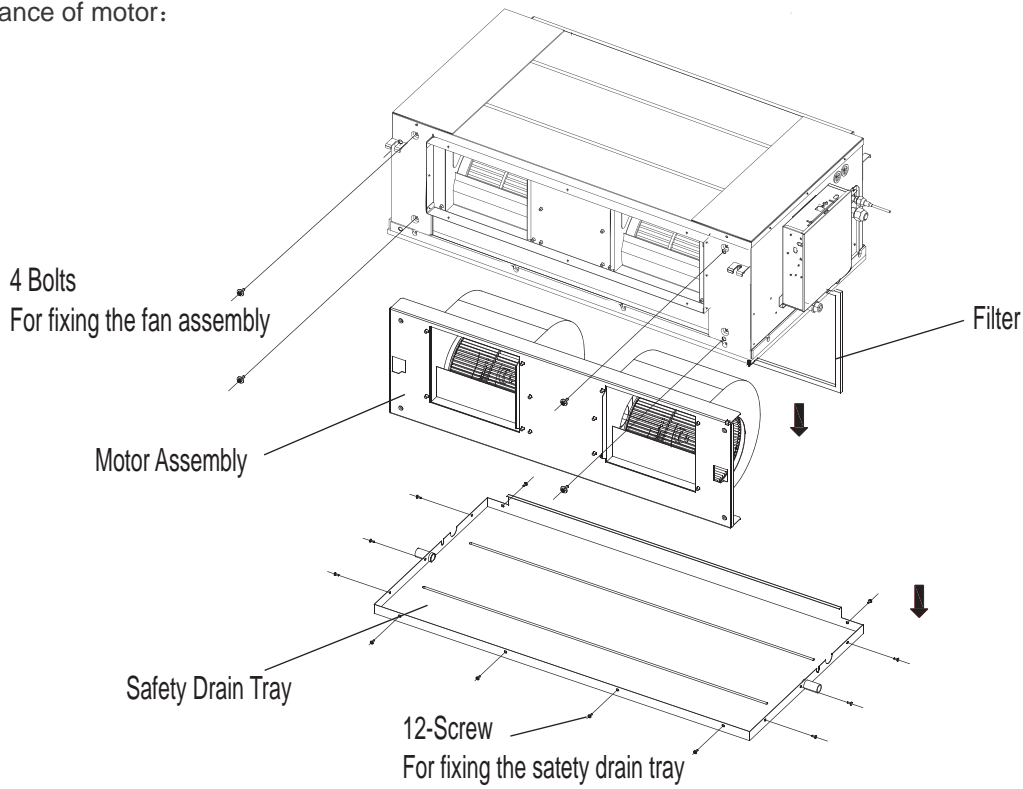
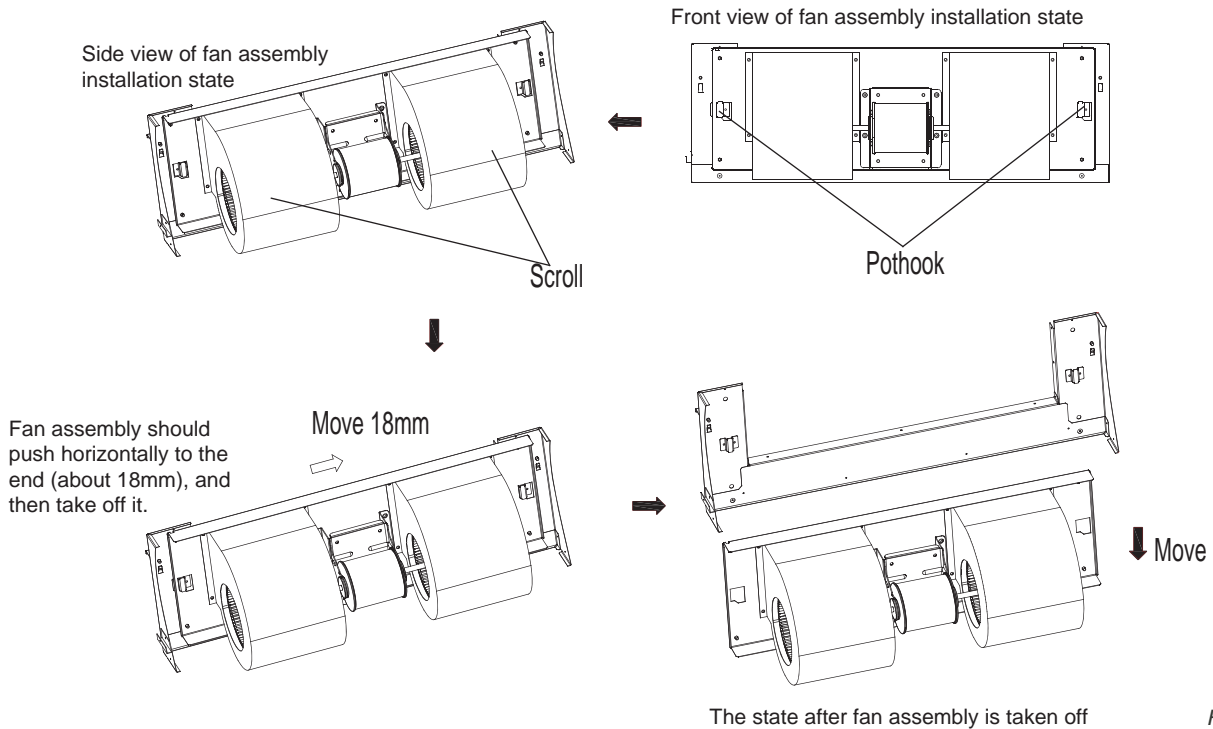

Fig.4-17
Fig.4-18
1. Refer to Fig.4-17, remove all 11 SCREW from safety drain tray, and take off the safety drain tray.
2. Refer to Fig.4-17, remove all 4 bolts from fan assembly, see Fig.4-18, according to which orders to take off the fan assembly.
3. Refer to Fig.4-18, horizontal pushing the fan assembly, until it cannot not move any further, and then lift up slightly and take down to remove it.